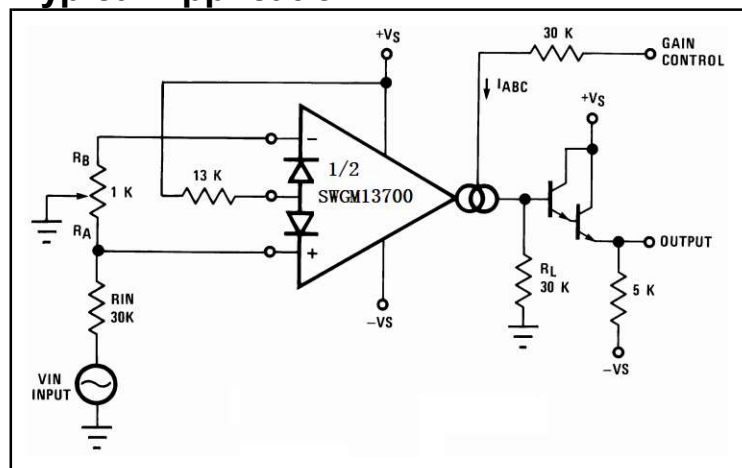

Figure 24. Voltage-controlled amplifier
For differential voltages greater than a few milli volts, The equation (3) becomes less valid and the transconductance becomes increasingly nonlinear Figure 24 demonstrates how the internal diodes can linearize the transfer function of the amplifier. For convenience assume the diodes are biased with current sources and the input signal is in the form of current I_s . Since the sum of I_4 and I_5 is I_{ABC} and the difference is I_{OUT} , currents I_4 and I_5 can be written as follows: